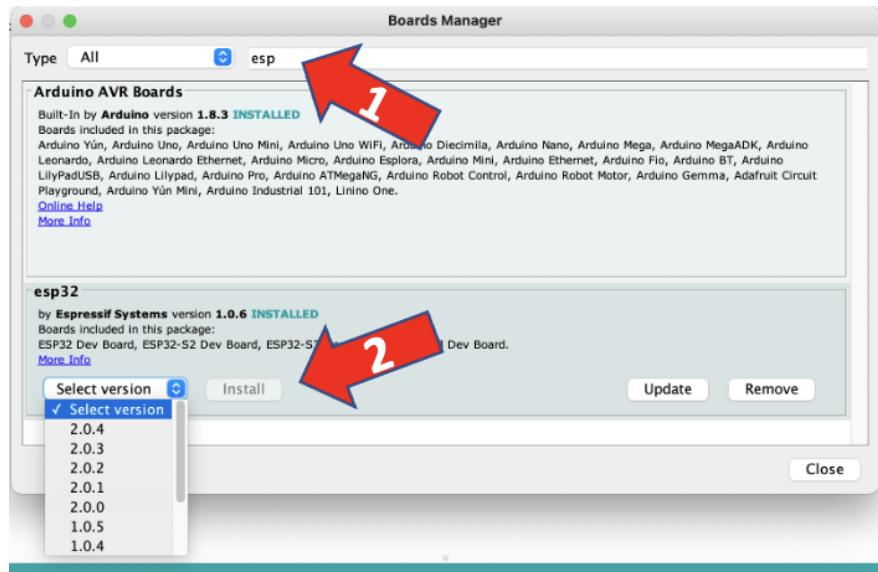

Figure 66. Arduino Boards Manager Selection Window.
4. Boards Manager Box Opens (Figure 66)